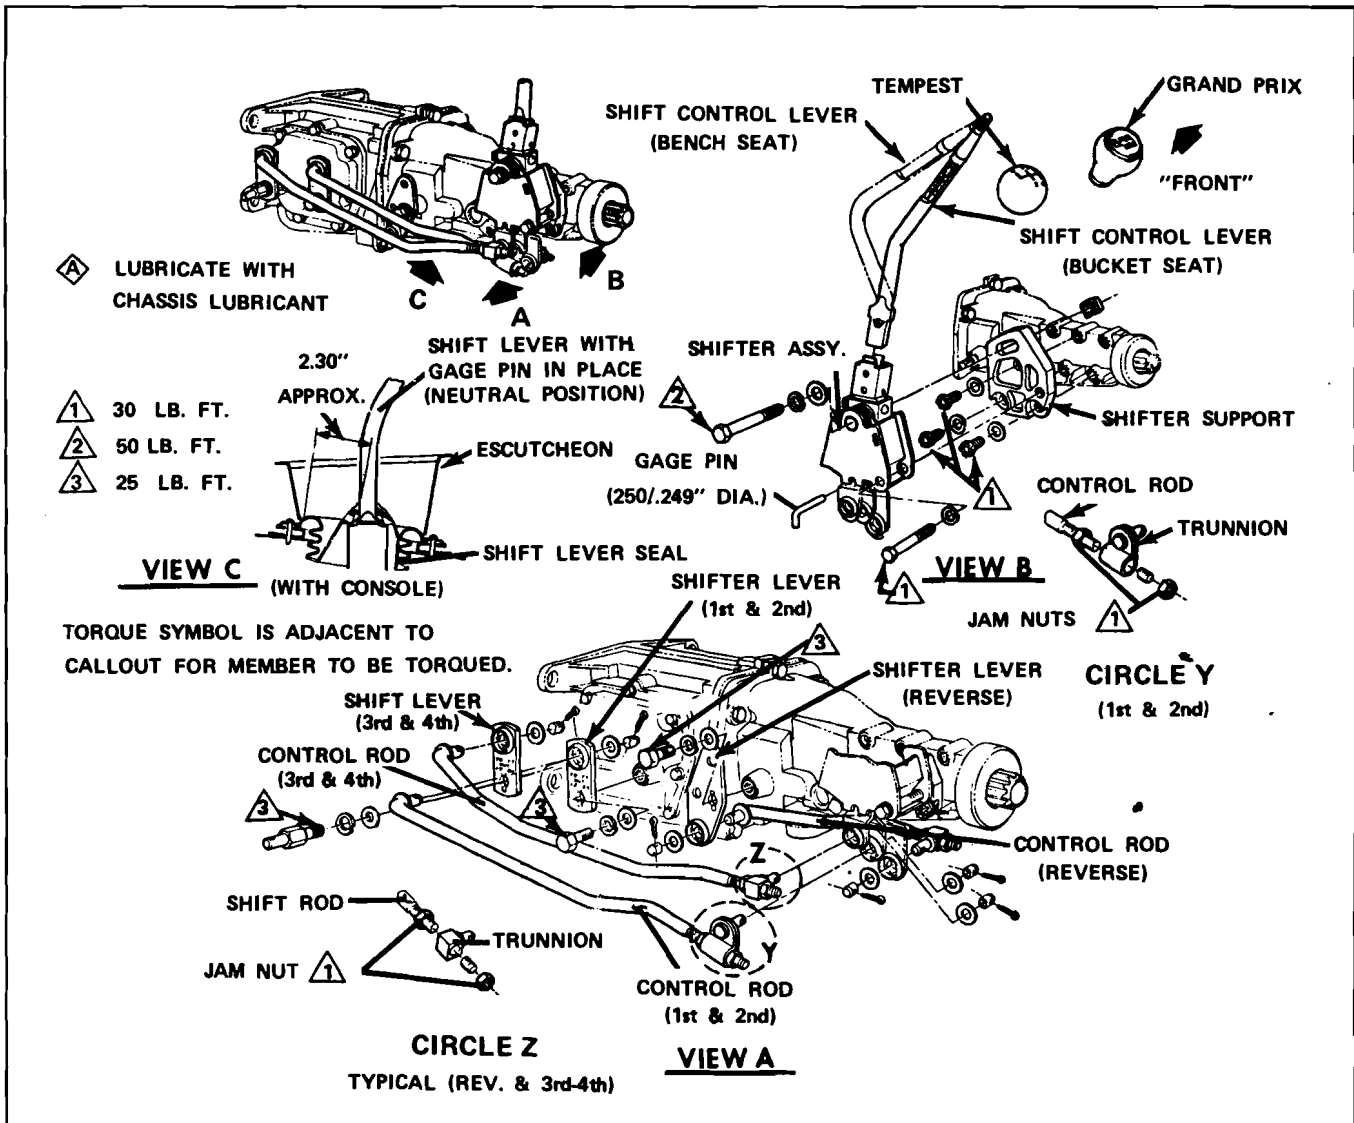

Fig. 7D-1 Tempest and Grand Prix Shift Controls
3. Tempest and Grand Prix - Loosen trunnion jam nuts "X", "Y" and "Z" on transmission control rods (view "A" of Fig. 7D-1).
Firebird - Loosen trunnion jam nuts "X" and "Z" on transmission control rods (1st and 2nd and Reverse) and disconnect trunnion "Y" from its shifter assembly lever (view "A" of Fig. 7D-2).
4. Insert a .250-249" diameter gage pin into shifter assembly (view "B" of Figs. 7D-1 or 7D-2).
5. If shift control lever is misaligned to its floor pan (console) opening (view "C" of Figs. 7D-1 or 7D-2):
9. Push up on gearshift control rod (Fig. 7D-3A or -3B) to take up clearance in steering column lock mechanism and tighten nut (or screw) of adjusting swivel clamp to 20 lb. ft.